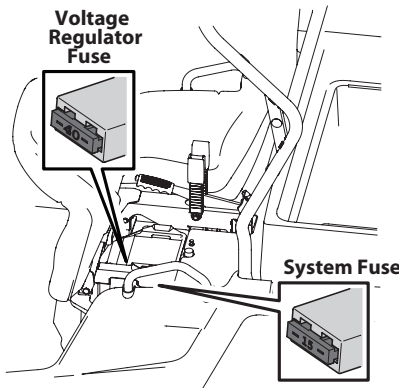

Figure 4-11
- Remove the appropriate electrical fuse and replace if needed with proper rated amp fuse. See Figure 4-11.